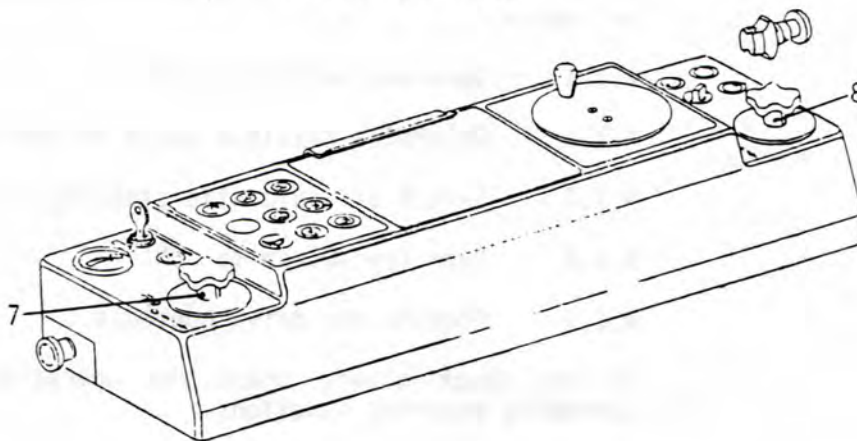

Fig. 17 Controls
- 3.6 Depress and hold down the drive control (7 Fig. 17) and the hydraulic control (8 Fig. 17) knobs. (Two hand control). Rotation of the drive control (7 Fig. 17) controls the speed and direction of travel.
By operating the drive control and hydraulic control (7, 8 Fig. 17) at the right time motion is uninterrupted.